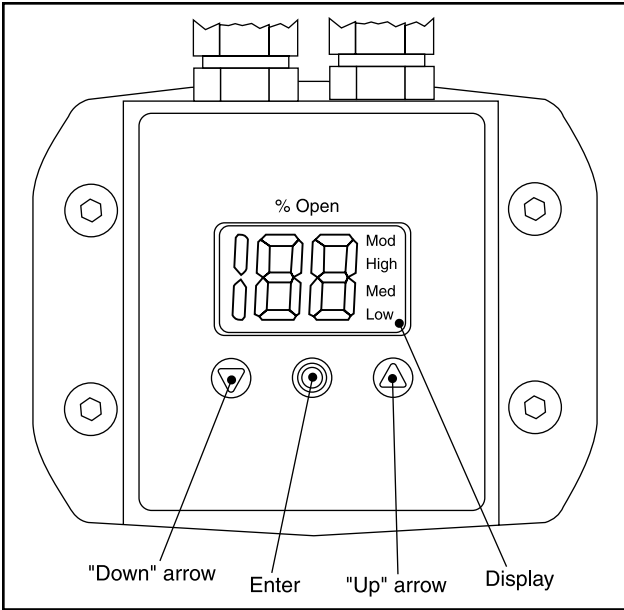

Figure 21
The setting of parameters is managed by means of the integrated ICAD (Figures 21 and 22) and consists of:
- “Down” arrow push button (Figures 21 and 22)
- “Up” arrow push button (Figures 21 and 22)
- Enter push button (Figures 21 and 22)
- Displays the function status by means of text (Figure 21).
- If an alarm has been detected the ICAD display (Figure 21) will alternate between showing Actual alarm and present Opening Degree.
5. When the display on ICAD (Figure 21) is alternating between showing: **CA** and **A1** the factory resetting is complete.